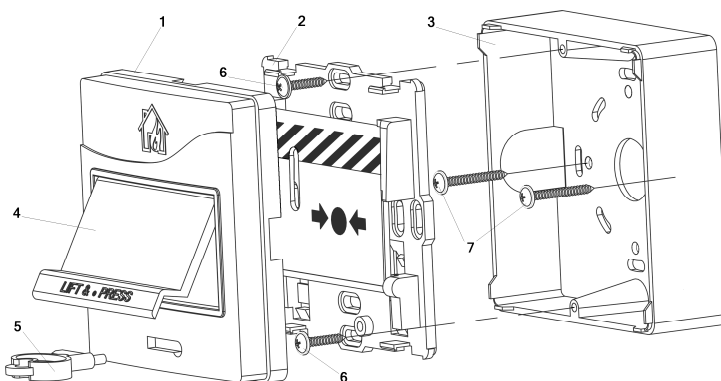

Figure 2
The call point shown disassembled in Figure 2 is to be mounted using the two screws to a flat vertical surface in accordance with your applicable local standards, codes, regulations, and ordinances. The installation order is as follows.
2.6.4 Reset the call point to its Norm state by inserting the special key provided (5 in Figure 2). Verify the call point LED starts flashing once per 4 s. From the panel or PC issue a command to cancel the alarm sent by the call point.